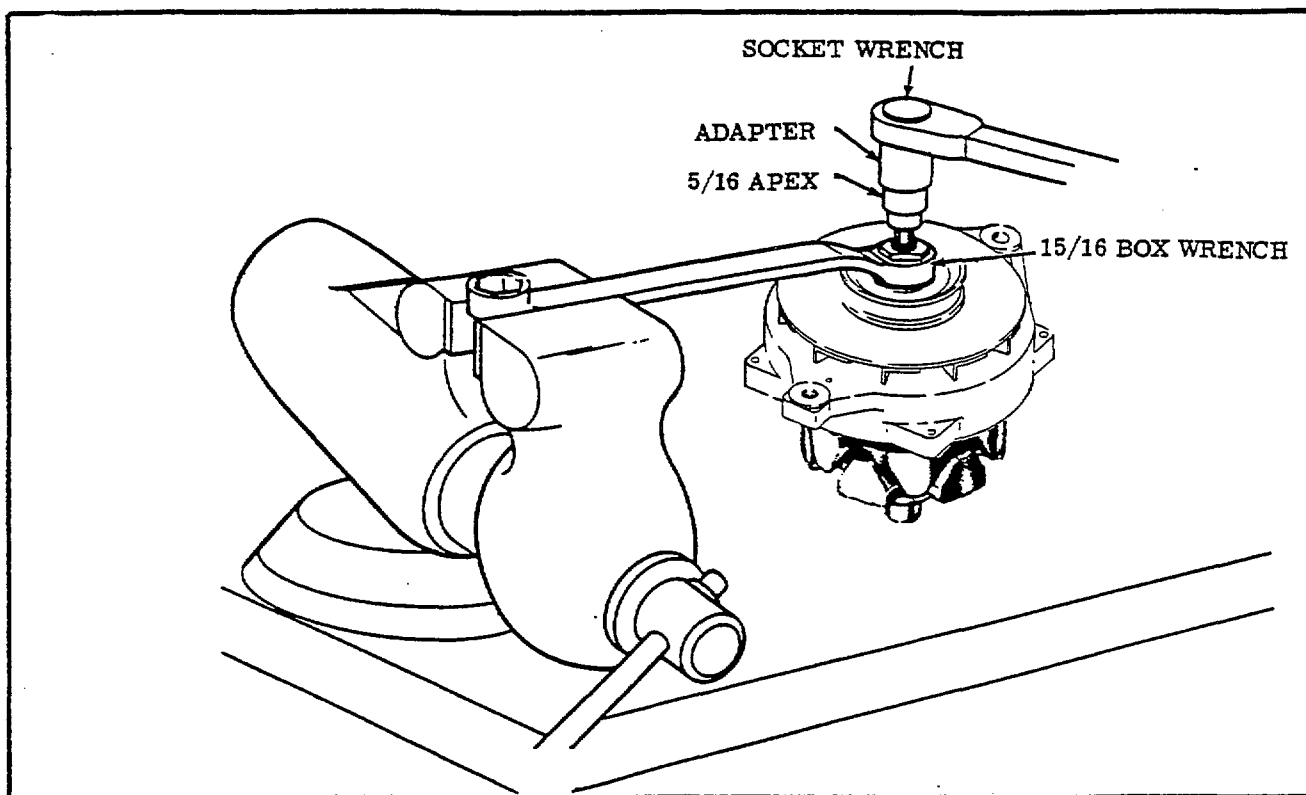

Figure 9-4. Front Housing Disassembly
- Separate the rotor, fan and pulley from the front housing by removing the hex nut. A special tool similar to figure 9-4 is required to remove nut. Remove pulley, fan and rotor.